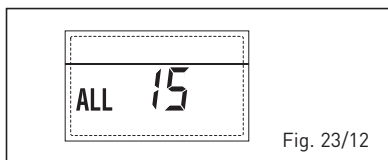

Fig. 23/12
– **ANOMALIA SONDA EXTERNA “ INTERMITÊNCIA” (fig. 23/13)**